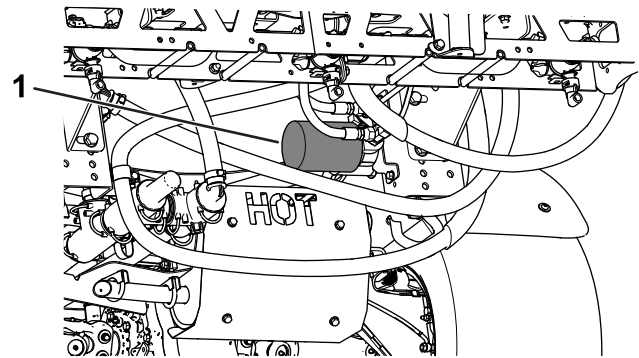

Figure 54
4. Remove the filter (Figure 54).